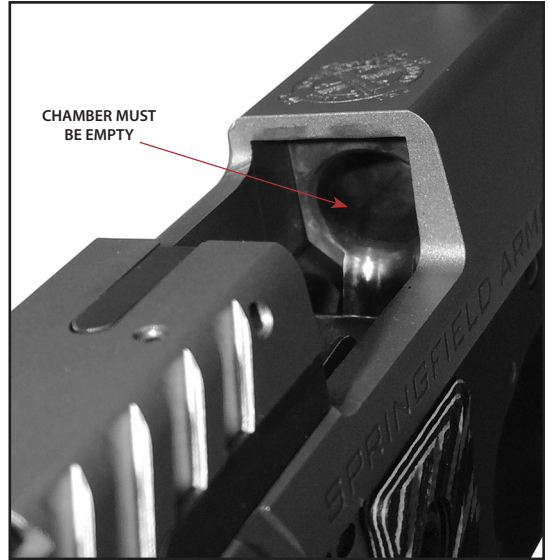

Figure 19
4. While holding slide in rearward (open) position, carefully inspect chamber making sure it is empty (See Figure 19).